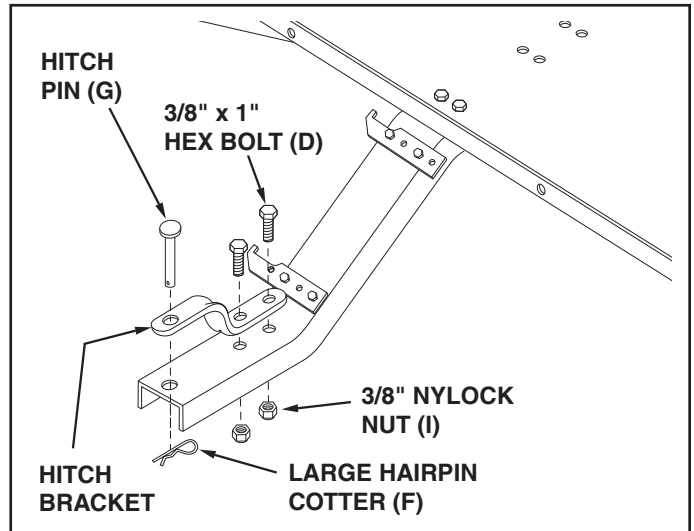

FIGURE 7
8. Assemble the hitch bracket to the tongue using two 3/8" x 1" hex bolts (D), and two 3/8" nylock nuts (I). **Tighten.** See figure 7.
9. Assemble the hitch pin (G) through the hitch bracket and the tongue. Secure the hitch pin with the large hairpin cotter (F). See figure 7.